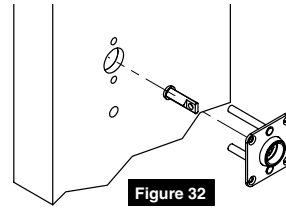

Figure 32
1. Assemble and install outside dummy adapter plate. (Figure 32)